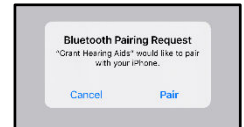

Figure 11
6. A pairing request window will appear for each device. Select **Pair** (Figure 11).